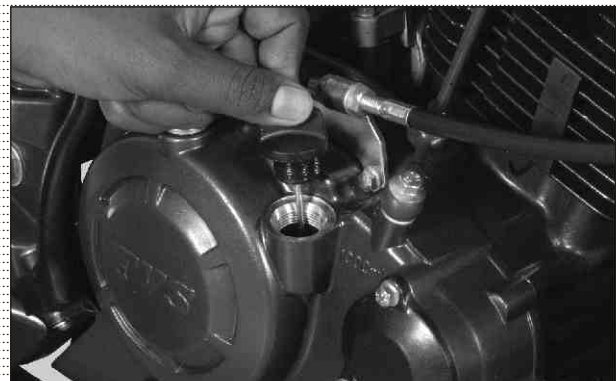

Fig. 2.33
- Start the engine and allow it to warm up. Remove gauge oil level to facilitate easy draining of oil. (Fig. 2.33)